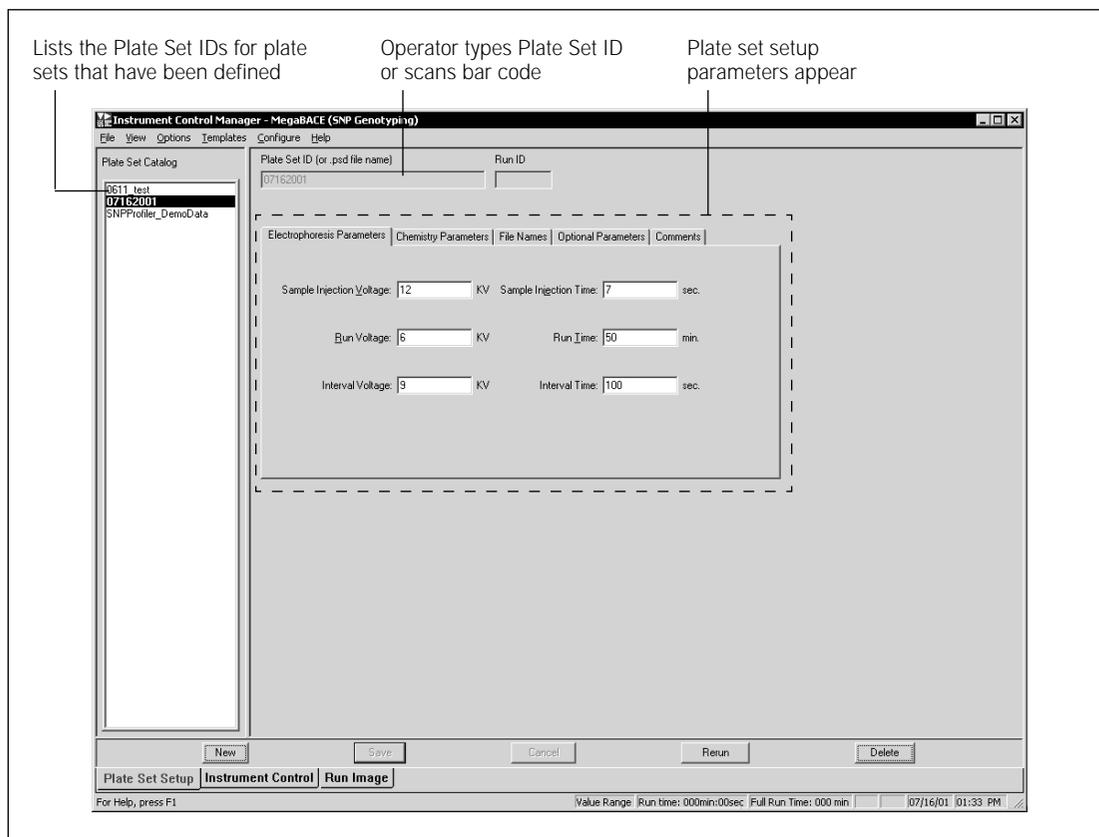

Figure 3-1. The Plate Set Setup window displays the parameters shared by all the plates in the plate set.
- The Plate Set Setup window (figure 3-1) to create the definitions before the run. The operator can select the precreated plate set definitions at the start of the Inject Samples and Run protocol.
You or an operator can create the plate set definition before the run using the Plate Set Setup window (figure 3-1). To do this, you or the operator can—